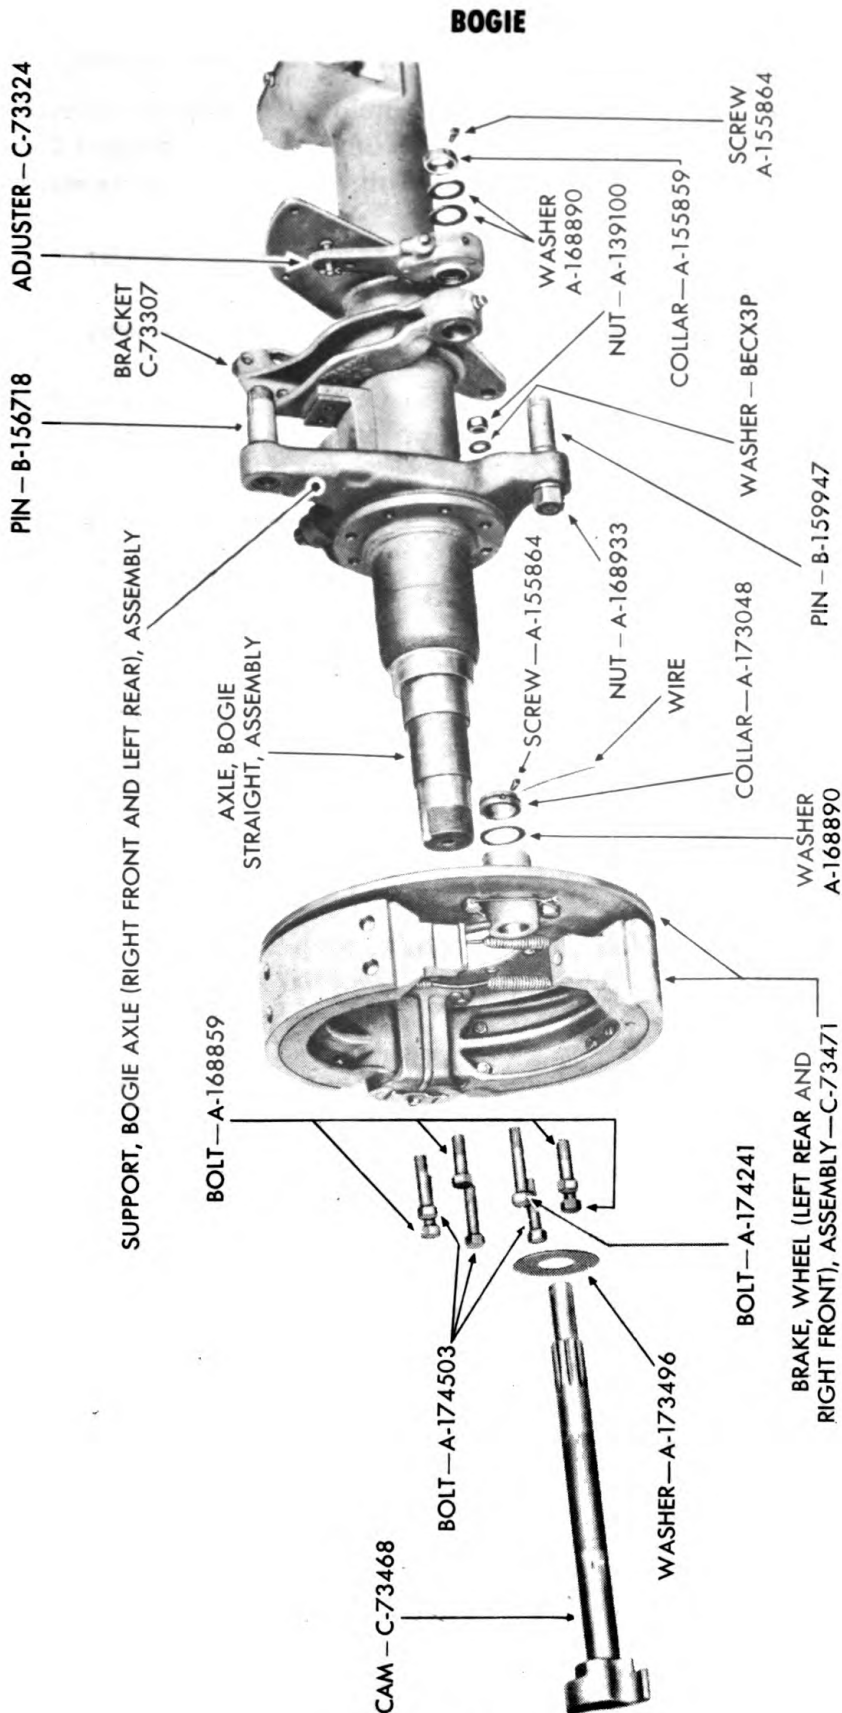

Figure 281 - Wheel Brake Parts - Exploded View
d. Install Wheel Brake Assembly (fig. 281).
(1) Wheel brake mechanism is disassembled, repaired, and assembled in paragraphs 109, 110, and 111.
(2) Left rear and right front wheel brake assemblies are interchangeable, as are the right rear and left front assemblies. The following procedure covers installation of one wheel brake mechanism. Repeat procedure to install the other wheel brake assembly on the bogie straight axle.